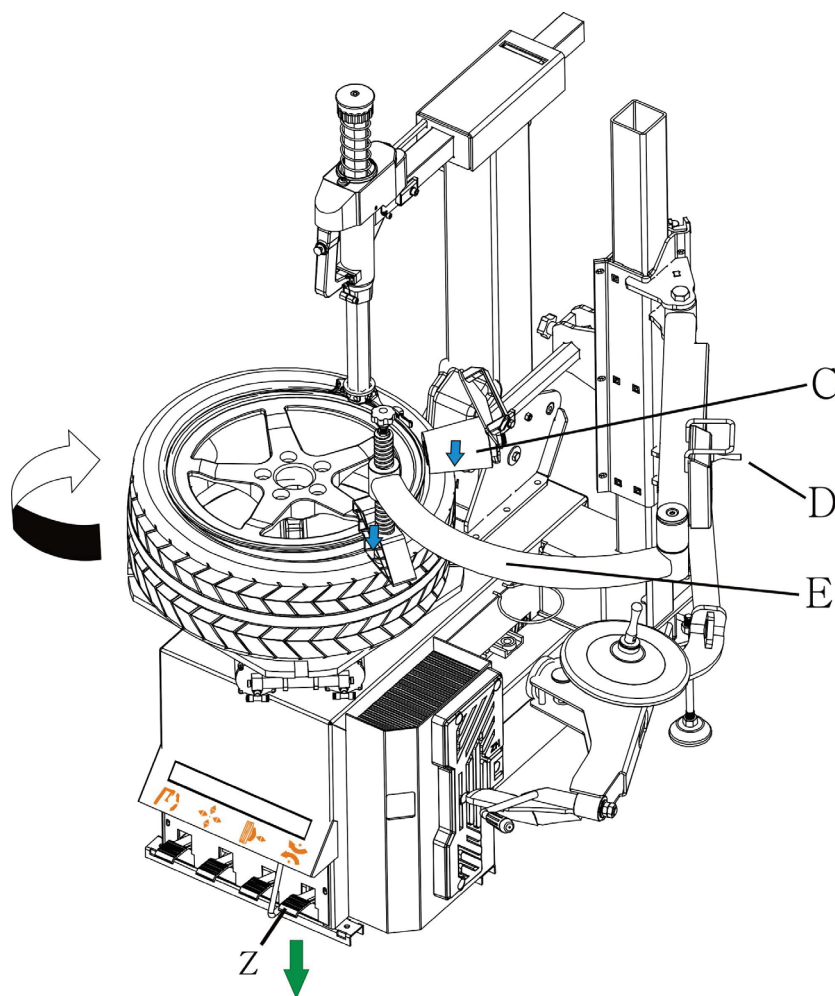

Fig.13
- Turn switch handle D upward to raise help arm, pull pressing roller C on the tire; turn pressing head E to the position as Fig.13. Turn switch handle D downward and help arm goes down, press roller press tire under mounting head, to protect tire bead, mounting head at the same time press tire bead below the rim as Fig.13.
- Press pedal Z to turn the turntable together with tire pressing head, mount upper bead with the help of mounting head as Fig.13.
⚠ NOTE: Stop operation if stuck occurred, to protect tire, lift pedal Z, turntable will go backward. Adjust pressing roller and pressing head, operate as Fig.13 again.